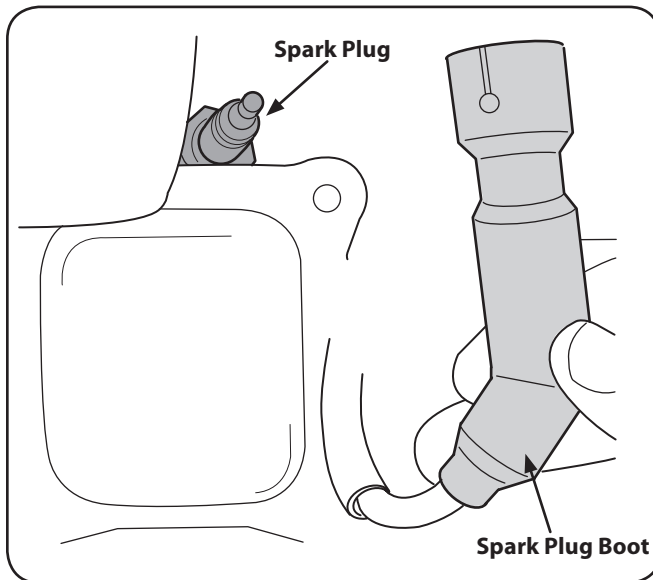

Figure 7-3
- Remove the spark plug boot and use a spark plug wrench to remove the plug, Fig. 7-3.